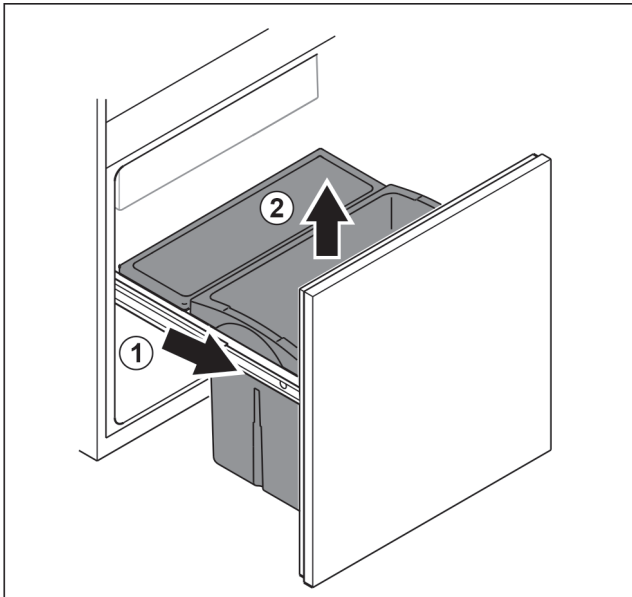

Fig. 100
- ▶ Remove the pull-out unit as far as it will go. Fig. 100 (1)
- ▶ Remove drawer upwards. Fig. 100 (2)